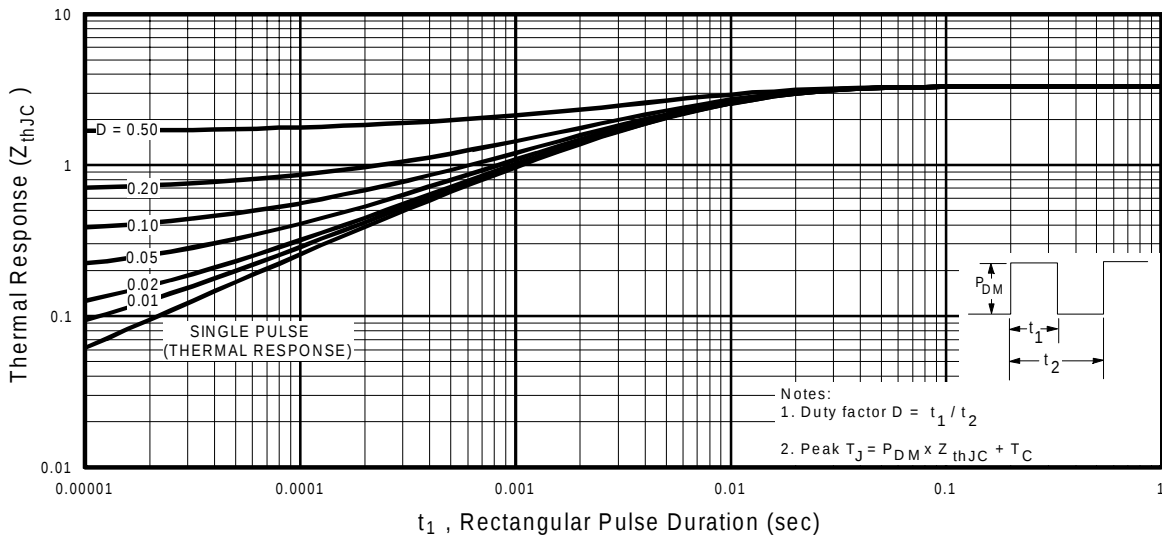

Fig 11. Maximum Effective Transient Thermal Impedance, Junction-to-Case
① Repetitive rating; pulse width limited by max. junction temperature. (See fig. 11)
② $V_{DD} = 25V$, starting $T_J = 25^\circ\text{C}$, $L = 790\mu H$